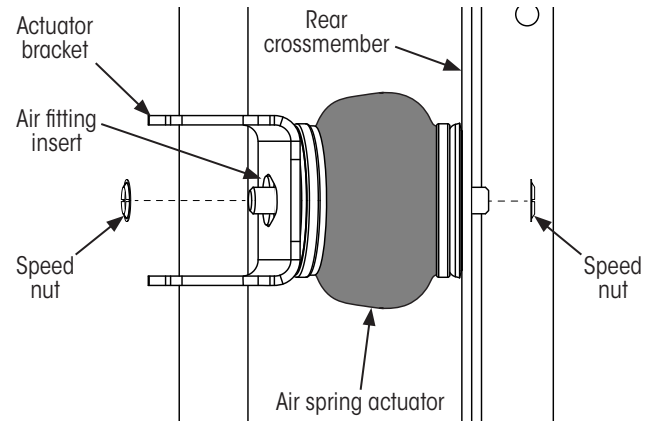

Figure 25: Air spring actuator installation details
1. **Place** the end of the air spring actuator (Figure 25) with the mounting stud and the air line fitting into the mounting hole on the actuator bracket.
3. **Insert** the mounting stud on the other end of the air spring actuator into the mounting hole on the rear crossmember (Figure 25).